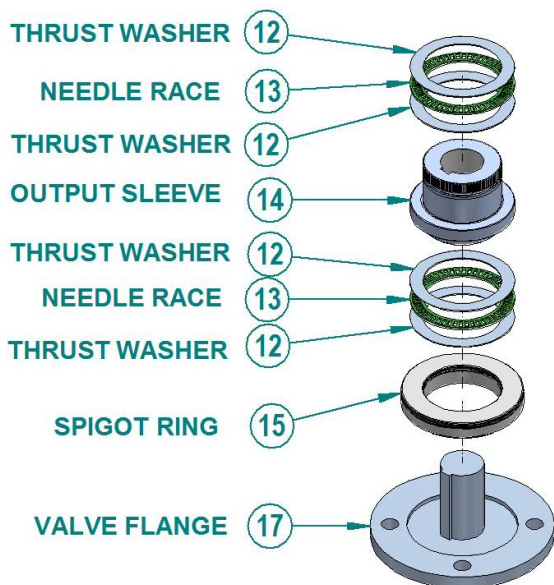

Figure 10: Valve Stem Assembly
It is recommended that the machined output sleeve assembly is assembled on the valve stem/shaft first and then the actuator-gearbox combination lowered to locate on the output sleeve assembly (see Figure 10 and 11 for assembly details).
1. Fit the machined output sleeve (14), thrust bearings (12 and 13) and baseplate spigot ring (15) on the valve shaft as shown in the Figure 10. Bearings should be greased with the appropriate grease. Grease the output sleeve and valve stem/shaft. Note that the spigot ring has an internal and external seal that should also be greased. See step 2 for further instructions.
3. For valves with keyed shafts (non-rising as shown in Figure 10 and 11), align base mounting holes and secure using screws or studs with a minimum tensile strength of 800 N/mm².